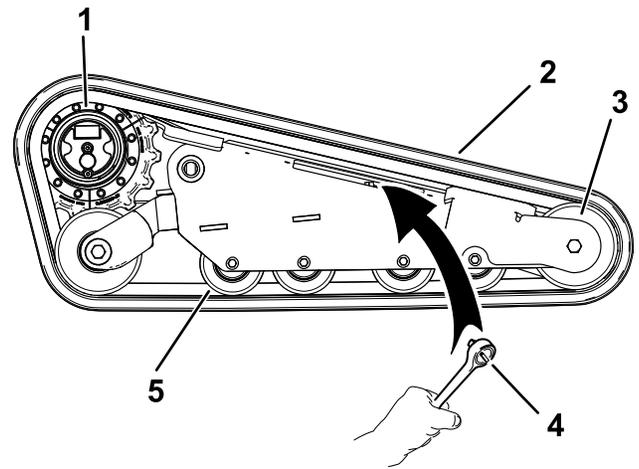

Figure 74
7. Using a 1/2-inch drive ratchet, release the drive tension by turning the tensioning screw clockwise (Figure 72 and Figure 74).
1. Wrap the new track around the front wheel (Figure 74).
2. Push the track under and between the road wheels and wrap it around the rear tension wheel (Figure 74).